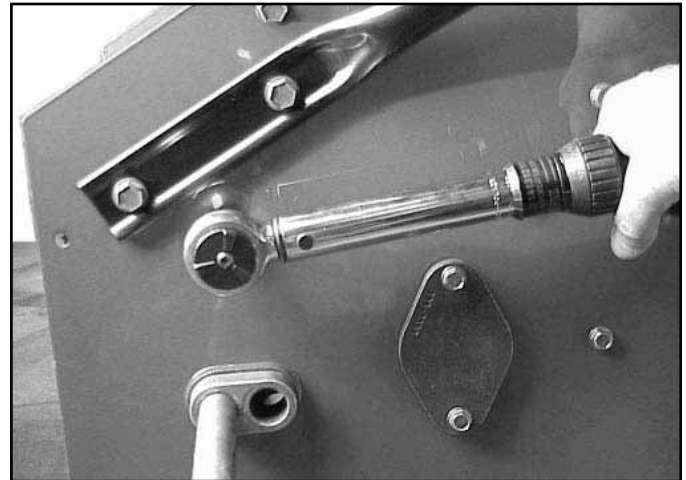

Fig 168 MVC-8562X.jpg
20. Torque the two intermediate shaft screws to 170 to 300 in-lbs. (19.2 to 33.9 Nm) (Fig. 168).